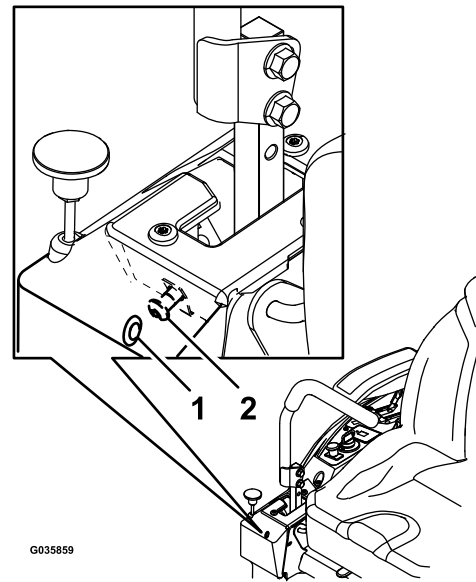

Figure 49
6. If the machine tracks to the right, insert a 3/16 inch hex wrench through the access hole in the right front cover panel and rotate the tracking screw clockwise or counterclockwise to adjust the travel of the lever (Figure 49).
7. If the machine tracks to the left, insert a 3/16 inch hex wrench through the access hole in the right front cover panel and rotate the tracking screw clockwise or counterclockwise to adjust the travel of the lever (Figure 49).